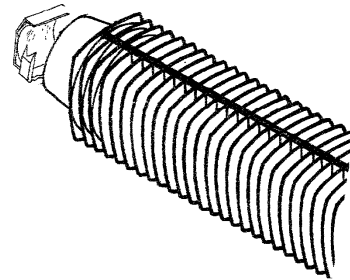

Figure 10. Standard Aperture Reflector Assembly
32. **Standard Aperture Reflector Assembly.** Used for heating solder termination sleeves and shrinking small diameter tubing. Used on devices having a maximum outside diameter of 1/4 inch and a maximum length of 1 inch and comes with heating tool when ordered (Figure 10).